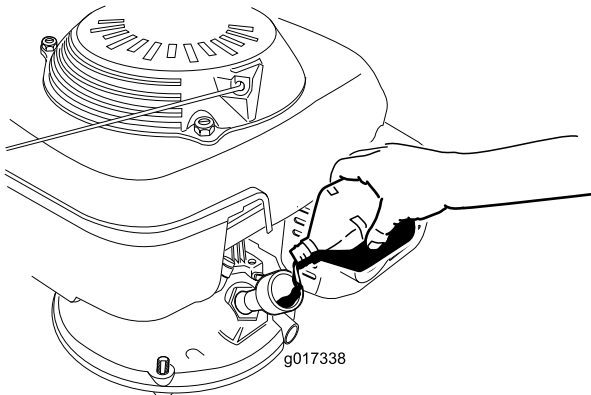

Figure 8
3. **Slowly** pour oil into the oil fill hole, wait 3 minutes, and check the oil level on the dipstick by wiping the dipstick clean and then inserting, **but not screwing in**, the oil fill cap into the hole (Figure 8).